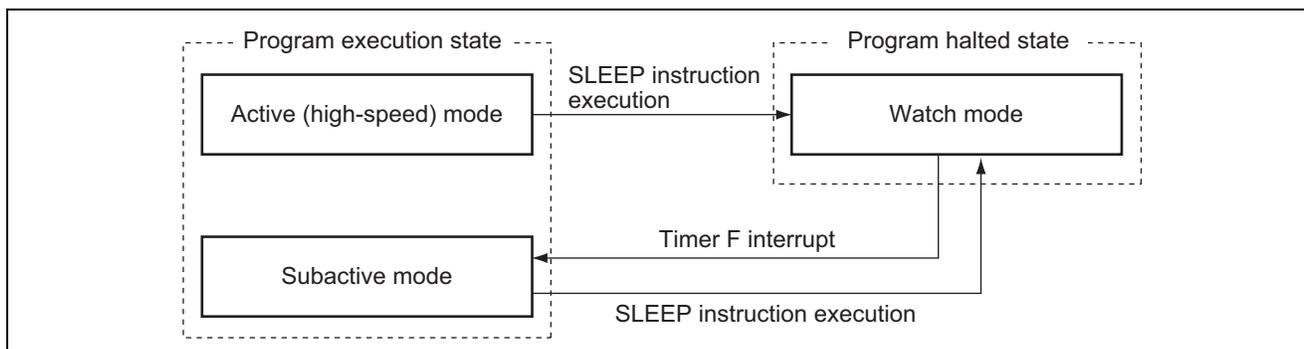

Figure 1 Diagram of Mode Transitions for this Sample Task
5. The mode transition diagram for this sample task is shown in figure 1.